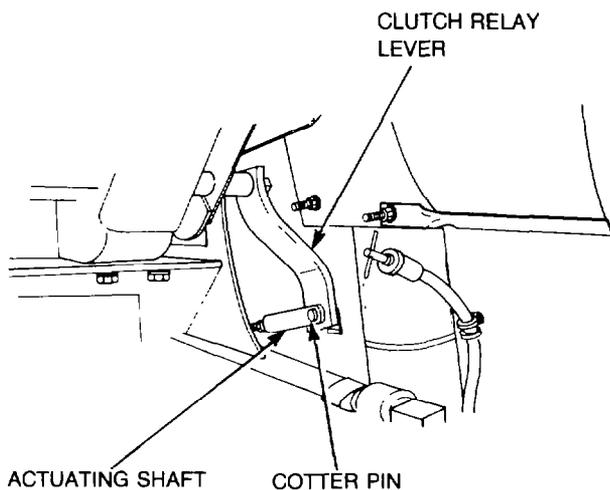

Figure 318 — Clutch Actuating Shaft — Removal
- l. Remove the split pin and cotter pin securing the clutch actuating shaft yoke to the relay lever (see Fig. 318).